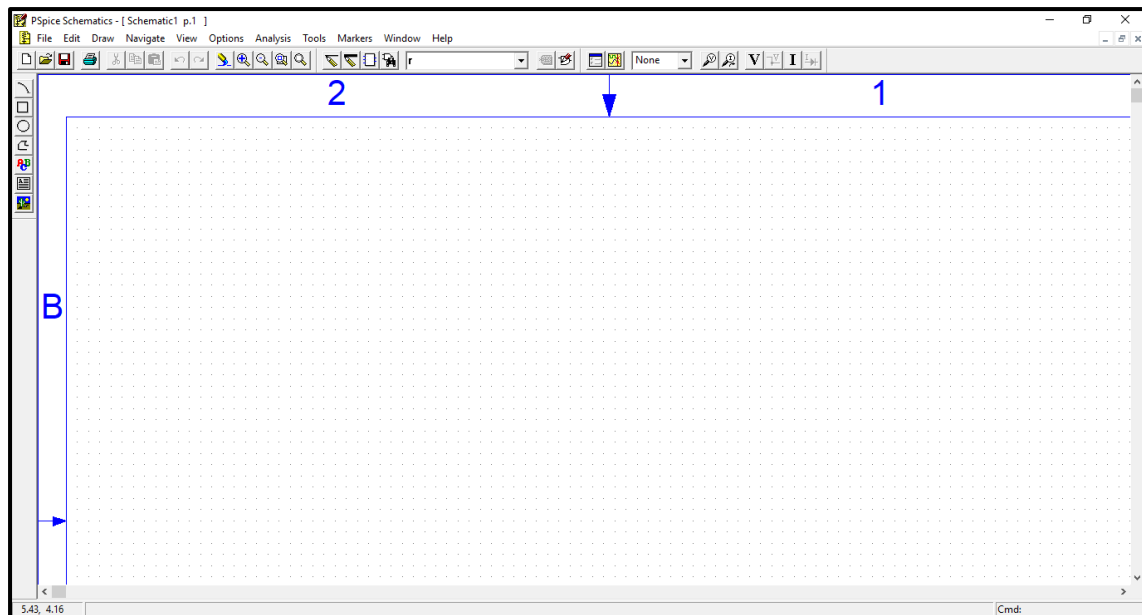

Figure.2
- Click on Schematics icon, then you will see the window shown on figure.2